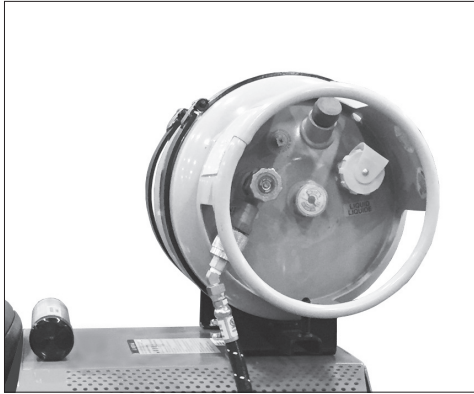

FIG. 14
3. Disconnect propane hose (Figure 14).